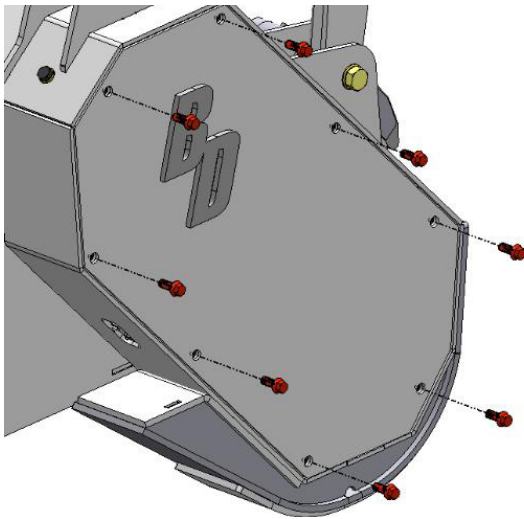

Figure 13
The 60" model has eight (8) bolts. See Figure 13.